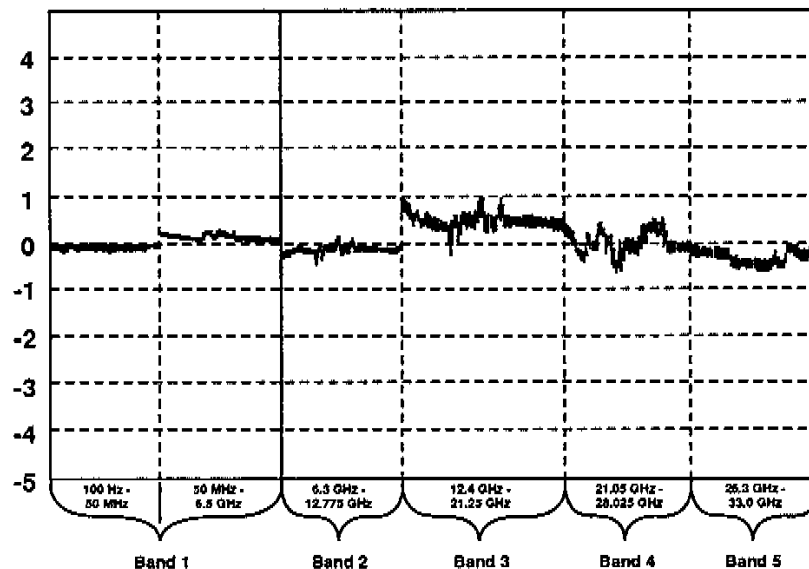

Figure 4-24. Example Plot for Flatness and Band Switching Uncertainty Measurements.
2. From the flatness check data collected in Part I of this procedure, determine the maximum p-p corrected flatness (in dB's) for all the attenuator settings in the 100 Hz to 6.5 GHz frequency range (see the example in Figure 4-24). Then, enter one half of this value at this step in the spreadsheet.
2. Using the corrected flatness data plots obtained from the Part I flatness checks (see the example in Figure 4-24), determine the average gain for each band at all RF attenuation settings, relative to the 0 dB line.